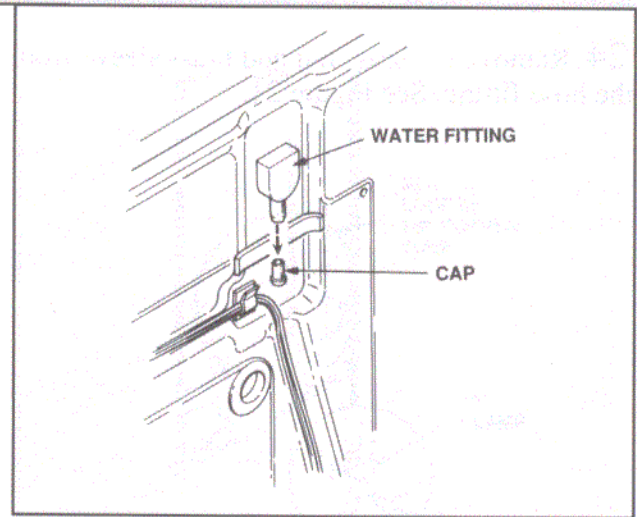

Figure 18
21. Remove the cap from the water fitting on the back of the refrigerator. See Figure 18.